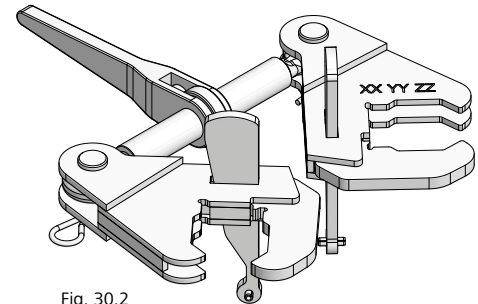
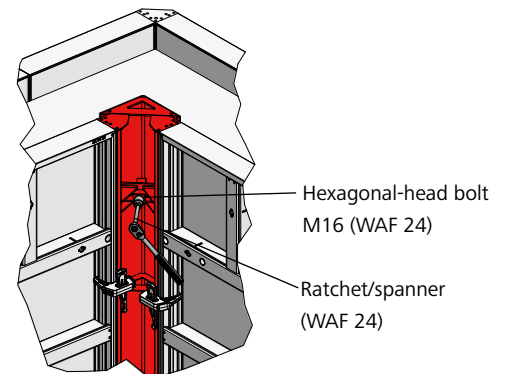

Fig. 30.2
Fig. 30.4
A 24 mm ratchet/spanner (Fig. 30.4) and the AluFix SC tool (Fig. 30.2) are required to open the AluFix stripping corner.
1. Undo all hexagonal-head bolts with a 24 mm ratchet/spanner (Fig. 30.4).